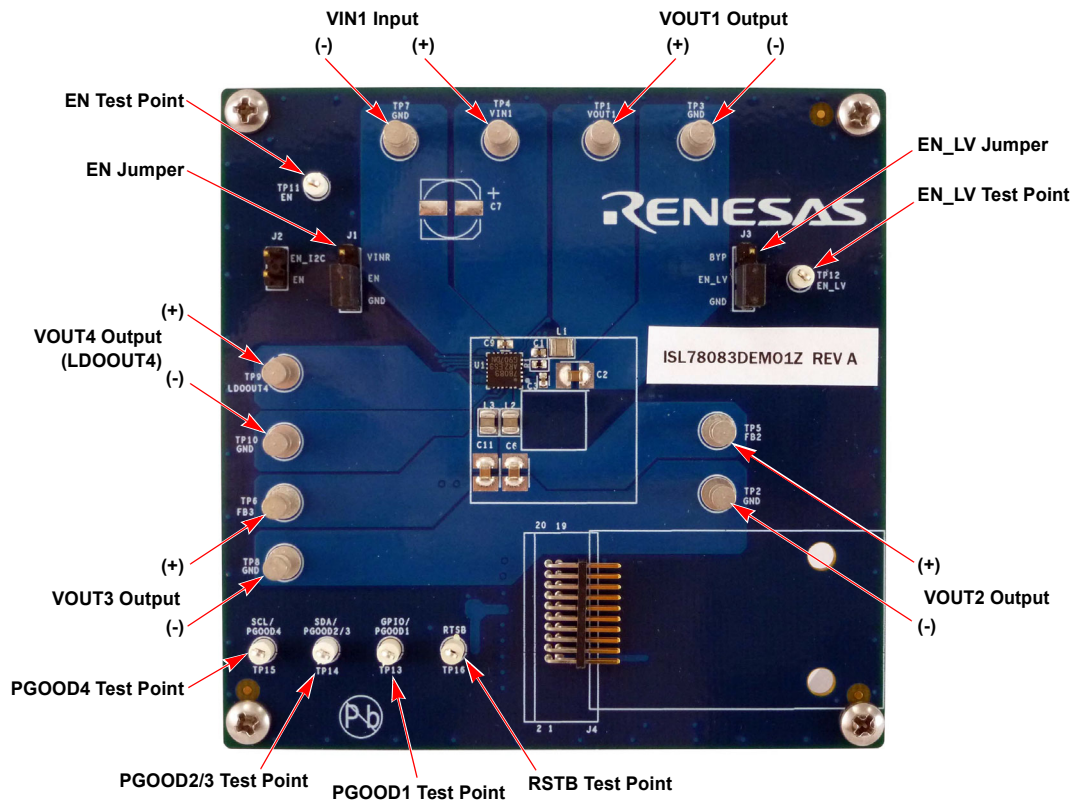

Figure 2. Demonstration Board Connection Guideline
4. Ensure that the jumpers for the EN input (see Figure 2 on page 5) and the EN_LV input are connected to GND.